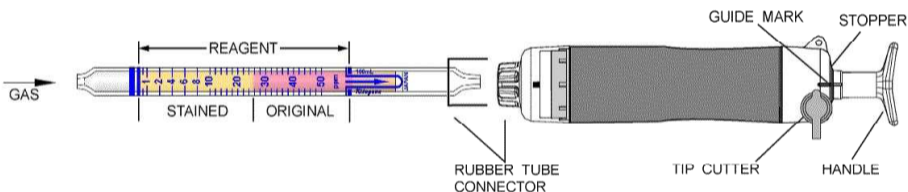

Fig.1
- ② Insert the detector tube into the aspirating pump securely as shown in Fig.1. (Arrow mark shall point to the pump.)
- ③ Align the guide marks on the handle and stopper of the aspirating pump.
- ④ Pull the pump handle at a full stroke until it locks and wait for 1.5 minutes or until the completion of sampling is confirmed with the flow indicator of the pump. (See descriptions about the flow indicator in the instruction manual of the pump.)
- ⑤ On completion of sampling, read the scale at the maximum point of the stained layer.
- ⑥ When the concentration is over the scale range, a 1/2 pump stroke can be used to determine concentrations of 1.25 - 125 ppm